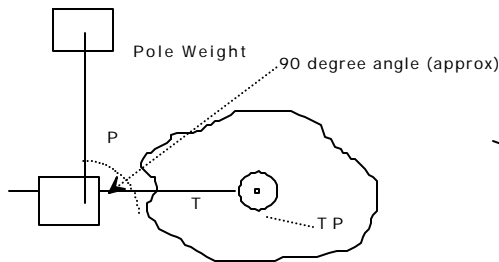

Fig. 1
3. Place the tracer point TP of your planimeter in the approximate center of the area to be measured. Position the pole weight in such a manner, that the pole arm P and the tracer arm T form a 90° angle (approx.) as shown in fig.1 below.